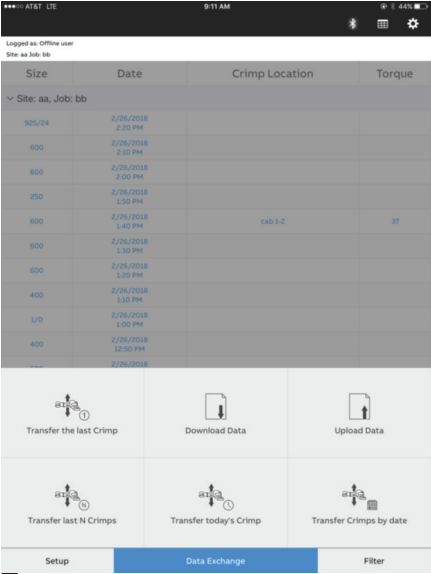

Figure 13
- Upload data by selecting **Upload All** at the bottom of the screen (Figure 13)